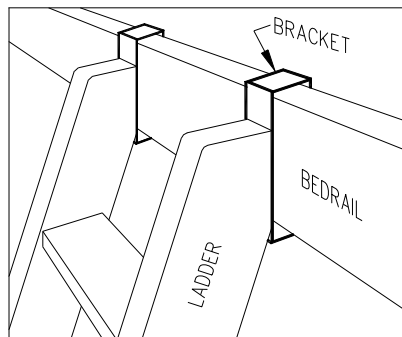

Figure 3: Angled Ladder Attachment
**Step 10:** Attach the **Ladder**. **For Flat** Ladder, set notch on bottom bedrail and loosen top bracket. Set bracket against bedrail and tighten. **For Angled Ladder**, hook the bracket over the Bedrail (Fig. 3).